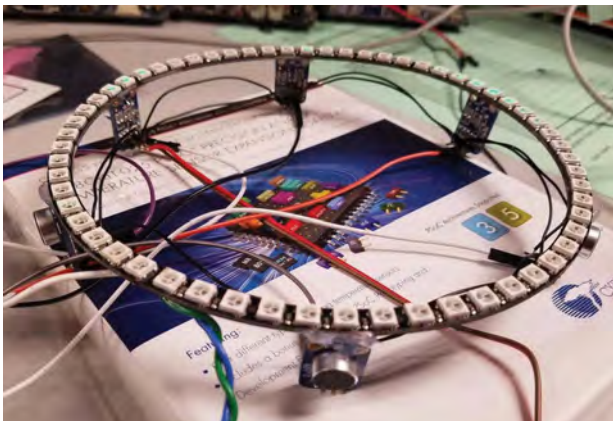

Fig.1. Omnidirectional auditory test bench, created by Sree Harsha Angara
I also know that I don't want my brain to be limited to a single microphone – I want its auditory senses to be omnidirectional so that it can determine the direction from which a sound originates. Fig.1 shows a setup my chum Sree Harsha Angara threw together one weekend. It boasts a 60-pixel ring of tri-colored LEDs and six microphones. Sree is an applications engineer (AE) at Cypress Semiconductor, so he powered his creation with one of their PSoC (Programmable System-on-Chip) devices. When you make a sound, like clicking your fingers, the PSoC works out which microphone heard that sound first and lights the corresponding segment of LEDs.